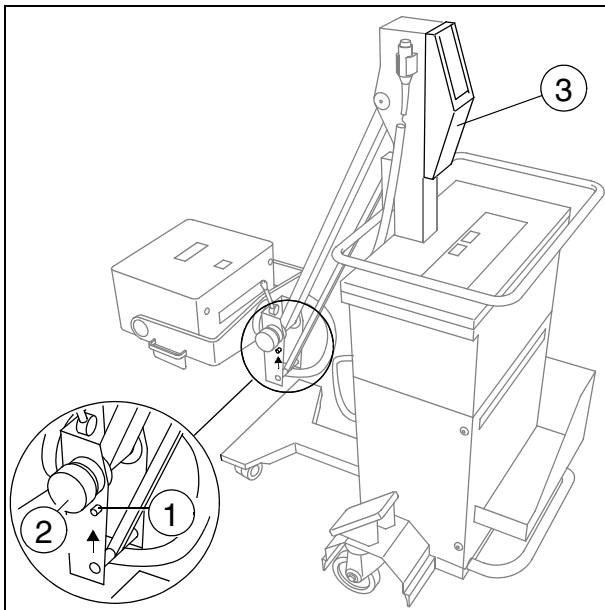

Fig. 7
- Release the support arm from the (moving) park position (1/Fig.7).
The support arm must maintain any position without using attached accessories and without activating the auxiliary brake (2/Fig.7).
- Use the rotary sleeve (2/Fig.7) to check the support arm's additional fixation points.
- Remove cover (3/Fig.7) from the stand.
- Release the auxiliary brake on the support arm (2/Fig.7) completely.
- Attach cover (3/Fig.7) to the stand.